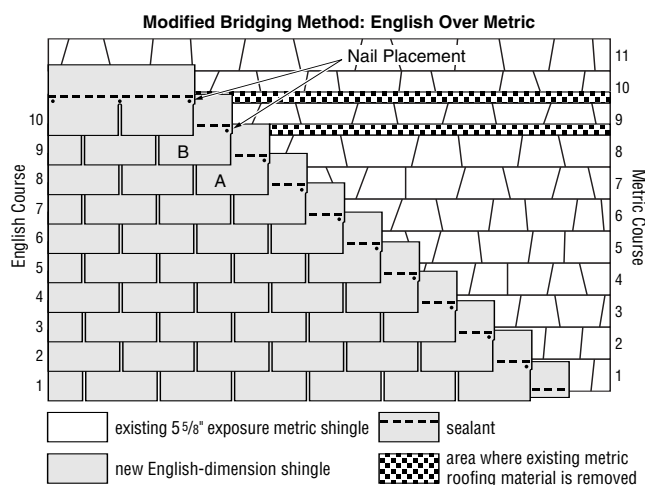

Figure 10-23: Reroofing using standard 12" x 36" shingles over metric shingles.
A standard metric shingle is typically exposed  $5\frac{5}{8}$ " to the weather. The illustration (Figure 10-23) shows an idealized method used to reroof with a 12" by 36" English-dimension shingle.
(Figure 10-23). Repeat this method on every eighth and ninth metric course up the roof. Counting from the first metric course, this means the 17th and 18th courses would also be cut back, as would the 25th and 26th, and so on.
**NOTE:** On an actual roof the course exposures will vary, so the directions above may need to be modified. An important **rule of thumb** is this: Each time the top edge of the English shingle overlaps the bottom edge of a metric shingle course by less than 1½", as shown by shingles "A" and "B" in Figure 10-23, cut that metric shingle back by 2" (or to fit) to allow the top edge of the English shingle to nest smoothly below it.